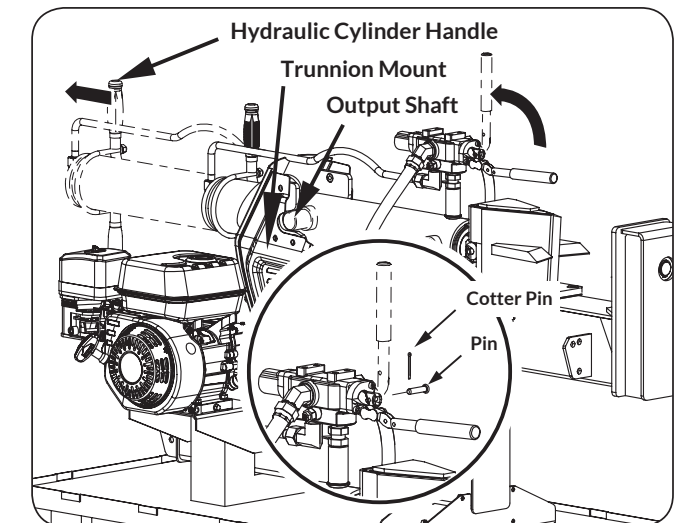

Figure 3
2. The control handle is shipped hanging from the valve on the handle link. Remove the pin and cotter pin from the control handle. Move the control lever to the vertical Neutral position (shown in circle on illustration **Figure 3**.)